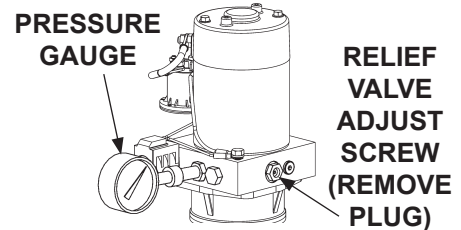

FIG. 37-2
9. With platform on the ground, remove the pressure hose and fitting from the pump and replace it with a 0-4000 PSI pressure gauge. Hold the control switch in the "raise" position. Adjust the relief valve on the side of the pump until the gauge shows 3250 PSI (FIG. 37-2). Remove gauge and reinstall pressure hose.